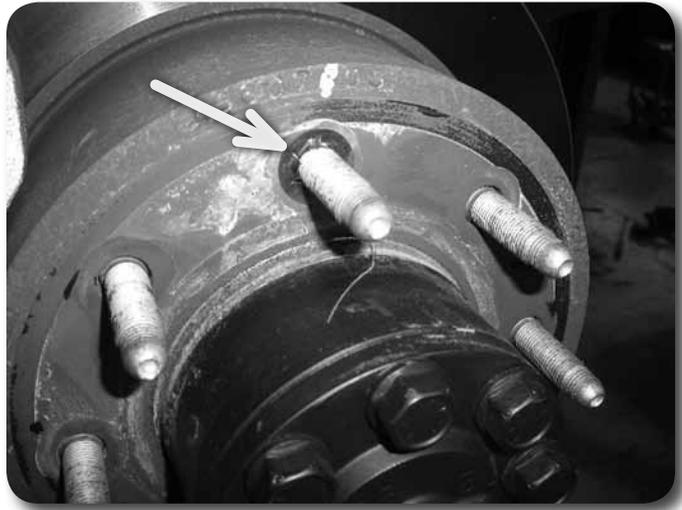

Figure 10
17. Remove clips on wheels Figure 10. Reinstall wheels and lower vehicle to the ground. Torque u-bolts to 150 ft-lbs. Torque lug nuts to 140 ft-lbs.